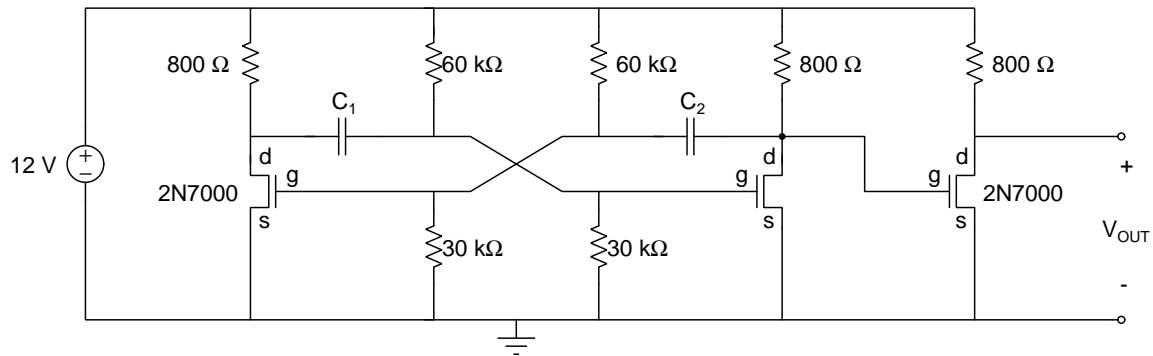

Figure 3: Astable multivibrator oscillator circuit of Figure 2 with an added 2N7000 transistor used as an output buffer.
4. The shape of the output signal can be improved by reducing the amount of capacitance on the output node. Add a third transistor to the circuit, to act as a buffer, as shown in Figure 3. This third transistor will invert the output signal. Hence, you will need to switch capacitors C_1 and C_2 to maintain the same duty cycle at the output.